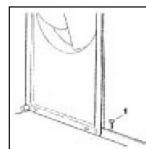

Fig.20.
- 2) Match the icemaker to its storage bin, fixing them with the two screws supplied with the machine (Fig.20).